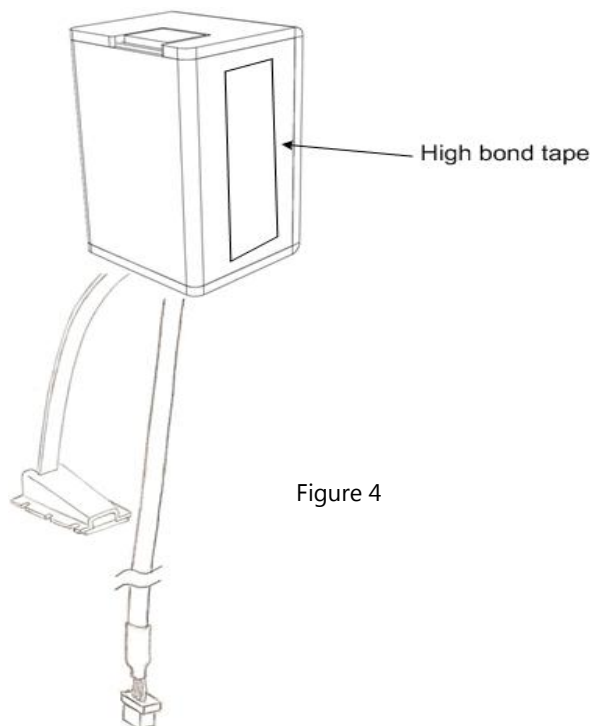

Figure 4
- Install the Door Interface Box as show in Figures 4 thru 9.